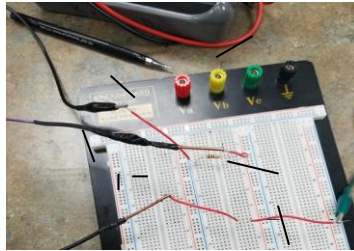

Figure 5-4
5. After the range has been selected, create an open in the circuit then insert the black negative test lead to the side where current is flowing out from then put the red positive test lead to the opposite side so that the multimeter is in the circuit in series as shown in figure 5-4. Note: If the polarity has been switched, the reading will be negative.